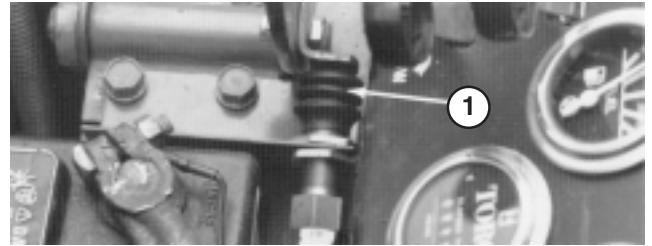

Figure 51
3. Remove boot from button end of PTO switch (Fig. 51). Retain boot for reinstallation. Separate switch wire connectors.